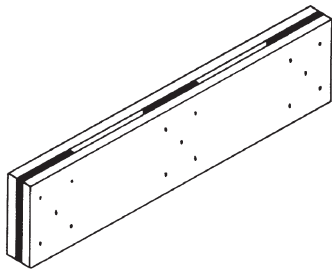

Fig. 9-33 Making the header outside the window opening. (Andersen.)
2. Cut two pieces of window header material to equal the rough opening of the window plus the thickness of two jack or trimmer studs. Nail the two header members together using an adequate spacer so that the header thickness equals the width of the jack or trimmer stud (Fig. 9-33).